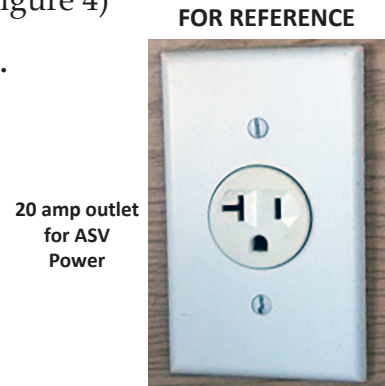

Figure 4
2. Electrical Hook-up. A dedicated 20 Amp, 110-120VAC circuit power supply is required for any AIRRaider system. This should be in the form of a dedicated junction box with conduit and a receptacle for plugging in the ASV power adapter. (Figure 4)